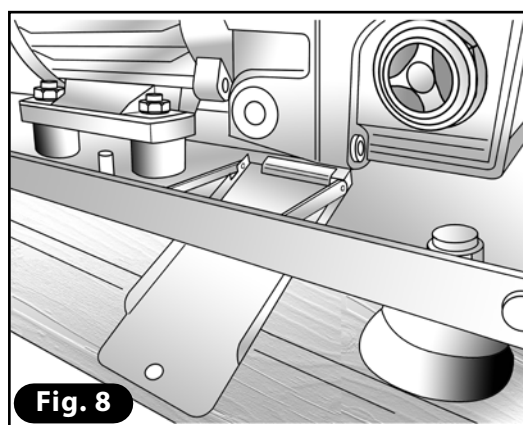

Fig. 8
- 3) Remove the screw on the oil drain slide (**Fig. 7**). Check that the slide (**Fig. 8**), can permit collection of oil from the pump.